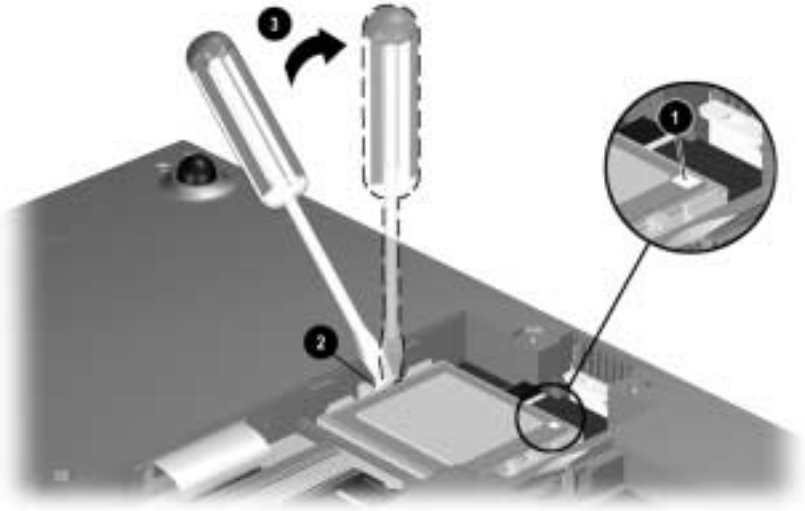

Figure 5-12. Replacing the Processor
When replacing the processor, make sure the white square is in the upper-right corner ❶. Insert the tip of the screwdriver into the right socket (marked “SKT CLOSE”) ❷ and swing the screwdriver to the right to seat the processor ❸ (Figure 5-12).